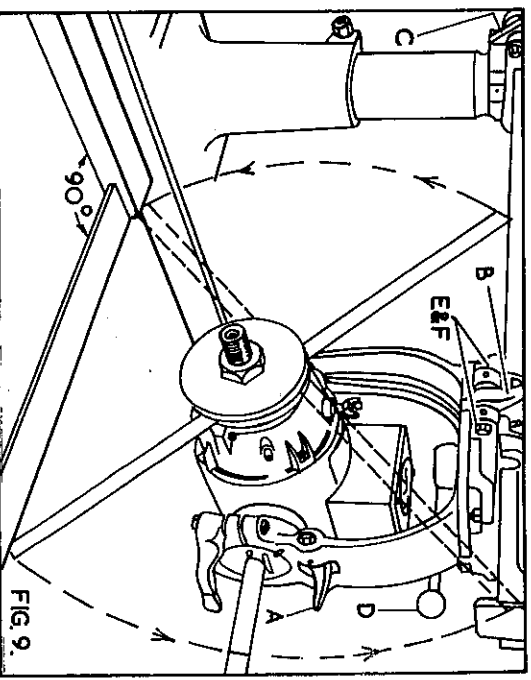

FIG. 9.
2. Ensure the motor locating latch "A" in Fig. 9, the stirrup locating latch "B" and the carriage locking screw "C" in Fig. 16 is securely locked.
4. Lift arm locating latch "C" in Fig. 9 and swing arm to extreme ends of the table checking that clearance between rod and table remains constant.
To check this alignment place a steel rule or some other similar straight edge between the saw flanges as shown in Fig. 9 and a steel square against the fence. Rotate the steel rule from front to rear. If adjustment is necessary loosen stirrup locking handle "D", and disengage the stirrup locating latch "B", set correctly, then relock in position with lever "D". Adjust the aerotight nuts "E" and hexagon locknuts "F" until the latch "B" locates accurately in the slot in the stirrup.